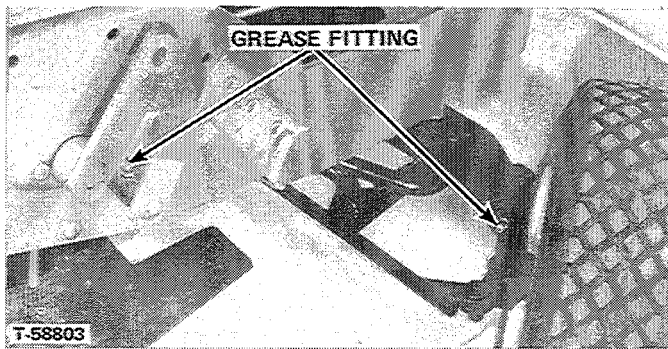

FIGURE 12
- 2 fittings on front axle (right hand shown) (Figure 12)
- 1 fitting on clutch brake pedal (Figure 12)